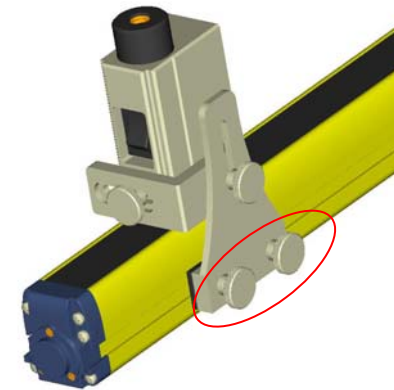

Fig.10
- To disengage the laser pointer is enough to totally unscrew the knobs shown in Fig. 10 and partially the remaining ones.